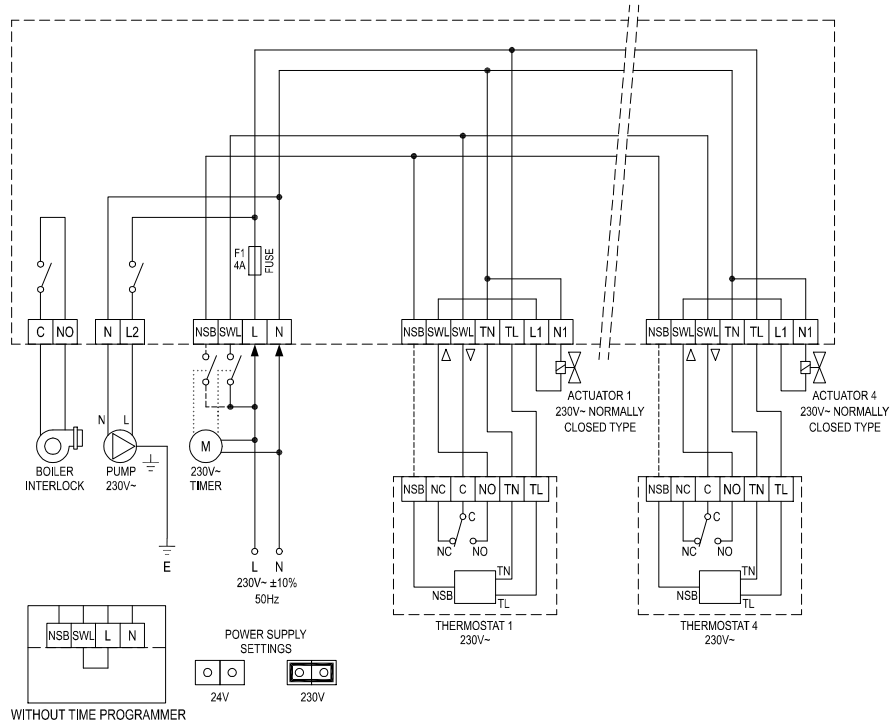

Fig. 5: Internal wiring diagram for 230 V~ power supply
**Please read the following carefully and also consult the wiring diagram, Fig. 5, which shows the connection of the power supply and external components to the wiring centre.**